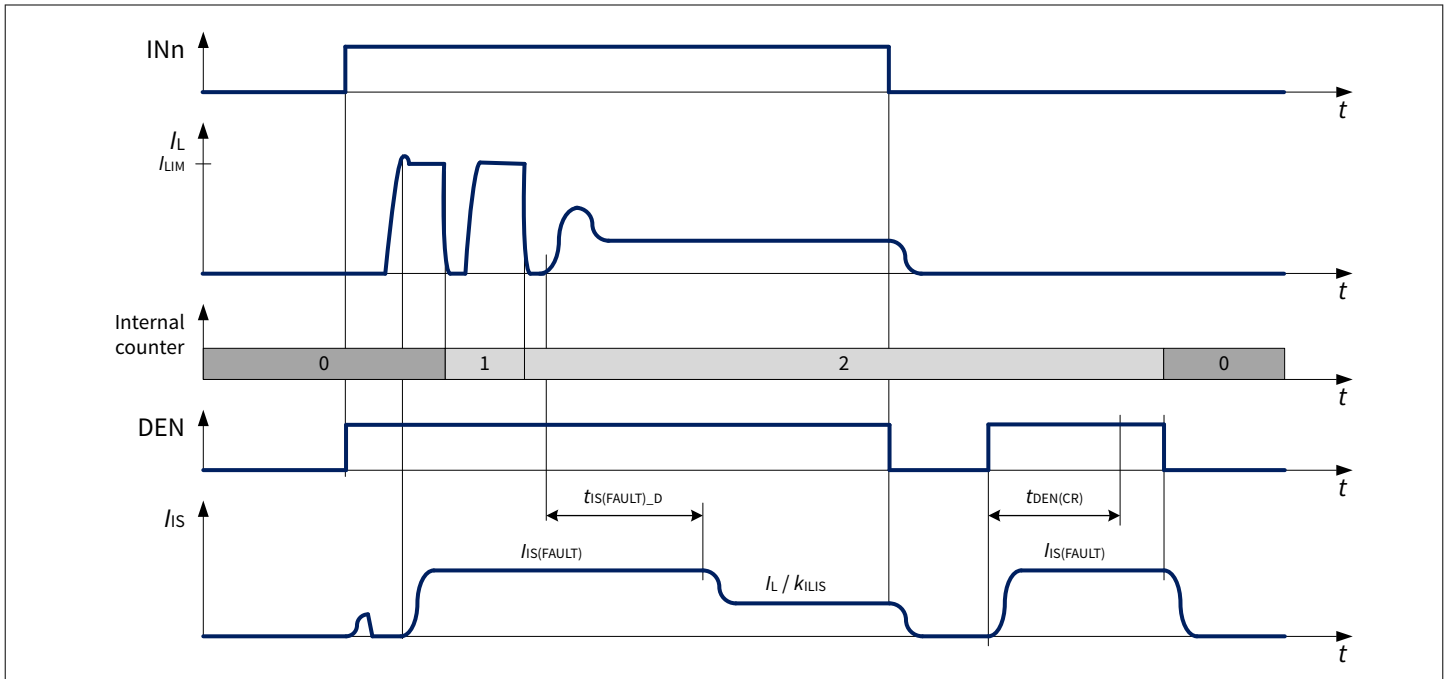

Figure 31 $I_{\text{IS}(\text{FAULT})}$ at load switching
- If the channel is ON and the number of restarts is less than " $n_{\text{RESTART}(\text{CR}),\text{TYP}}$ ", the current $I_{\text{IS}(\text{FAULT})}$ is provided for a time $t_{\text{IS}(\text{FAULT})_D}$ after the channel is allowed to restart, and thereafter $I_{\text{IS}} = I_{\text{L}}/k_{\text{ILIS}}$ (as shown in Figure 31). During a restart cycle the current $I_{\text{IS}(\text{FAULT})}$ is provided each time the channel diagnosis is checked.